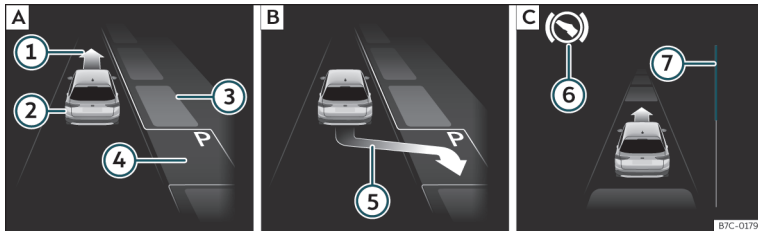
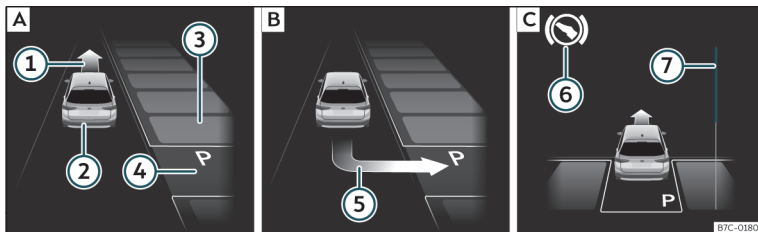

Fig. 229 On the instrument panel display: perpendicular parking. **[A]** Finding a parking space. **[B]** Parking position. **[C]** Manoeuvring.
Fig. 230 On the instrument panel display: parallel parking. **[A]** Finding a parking space. **[B]** Parking position. **[C]** Manoeuvring.
Key to **Fig. 229** and **Fig. 230**:
>>> **Fig. 229** ⑦ and >>> **Fig. 230** ⑦ on the screen of the instrument panel displays the relative distance to be covered. The greater the distance, the fuller the progress bar. When driving forward, the content of the progress bar decreases upwards, and when reversing, it decreases downwards.
2.	Look at the display on the instrument panel to see if the space has been detected as "appropriate" and if the correct position for parking has been reached >>> Fig. 229 [B] or >>> Fig. 230 [B] . The space is considered "appropriate" if the display on the instrument panel shows the message to park (5) .
6.	Reverse until the ParkPilot continuous signal is heard. OR: reverse until the instrument panel displays the message to go forwards >>> Fig. 229 [C] or >>> Fig. 230 [C] . OR: reverse until the instrument panel displays the message Park Assist finished . The progress bar (7) indicates the distance to cover >>> page 278.
7.	Press down the brake pedal until the Park Assist system has finished turning the steering wheel. OR: until the (S) symbol on the instrument panel display switches off.
9.	Go forward until the ParkPilot continuous signal is heard. OR: go forward until the instrument panel display shows the message to reverse. The Park Assist system steers the vehicle forward and back until it centres it in the space >>> Fig. 229 [C] or >>> Fig. 230 [C] .